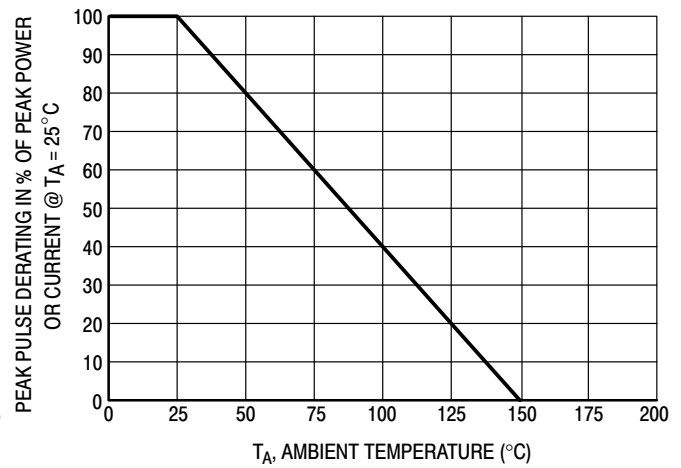
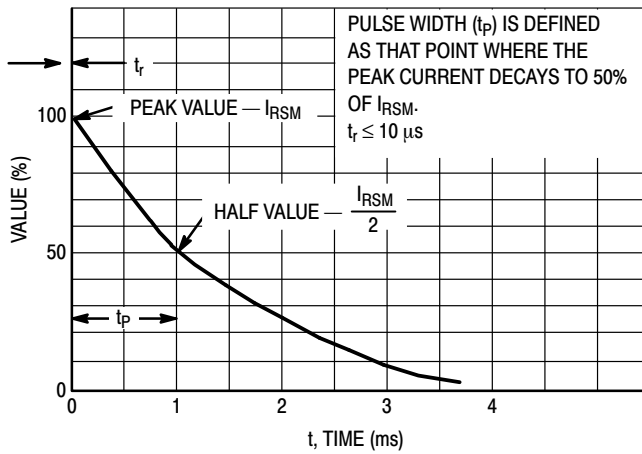
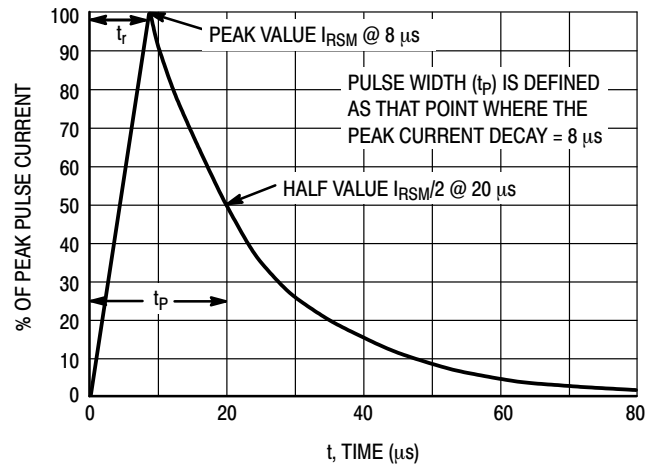

Figure 4. Pulse Derating Curve
Figure 5. $10 \times 1000 \mu s$ Pulse Waveform
Figure 6. $8 \times 20 \mu s$ Pulse Waveform
- Peak Power – Min. 24 W @ 1.0 ms (Unidirectional), per Figure 5 Waveform
- Peak Power – Min. 150 W @ 20 μ s (Unidirectional), per Figure 6 Waveform
1. Non-repetitive current pulse per Figure 5 and derate above T_A = 25°C per Figure 4.
2. Non-repetitive current pulse per Figure 6 and derate above T_A = 25°C per Figure 4.
8. Surge current waveform per Figure 5 and derate per Figure 4.